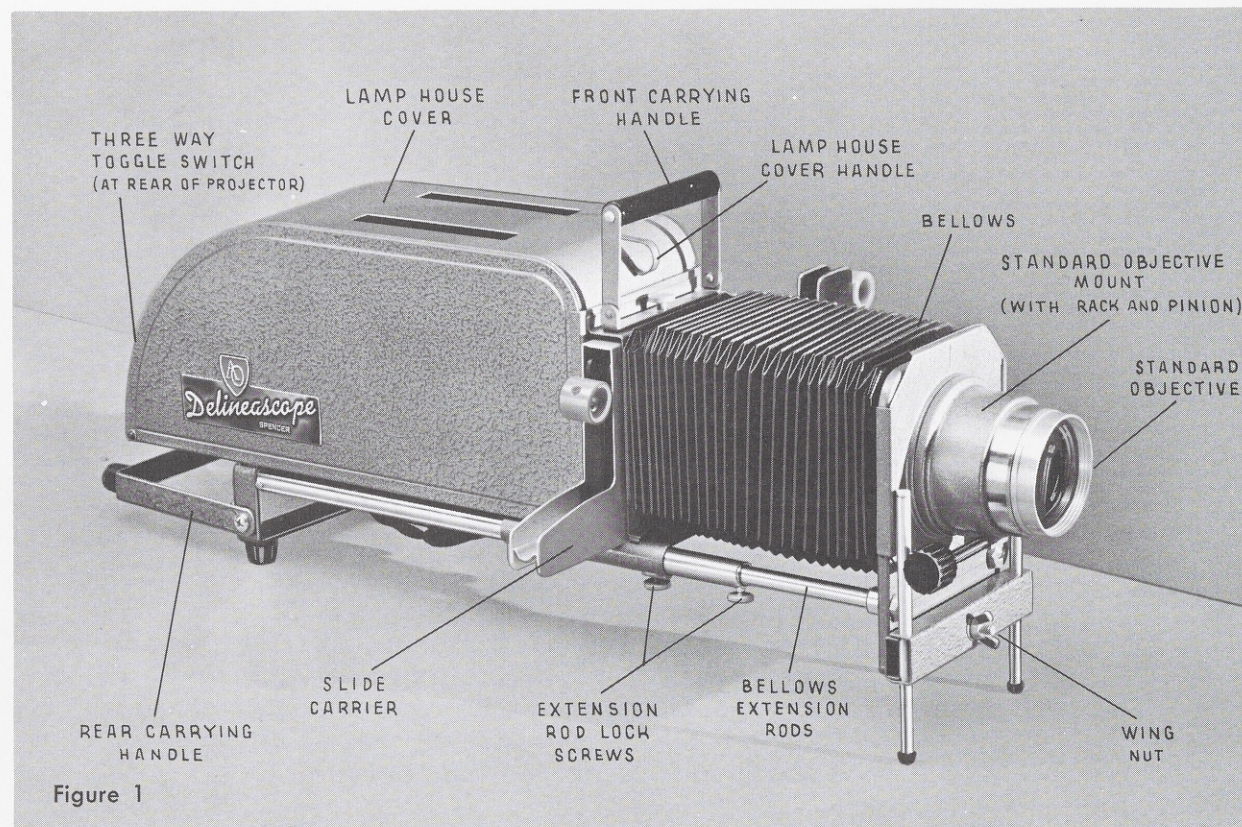
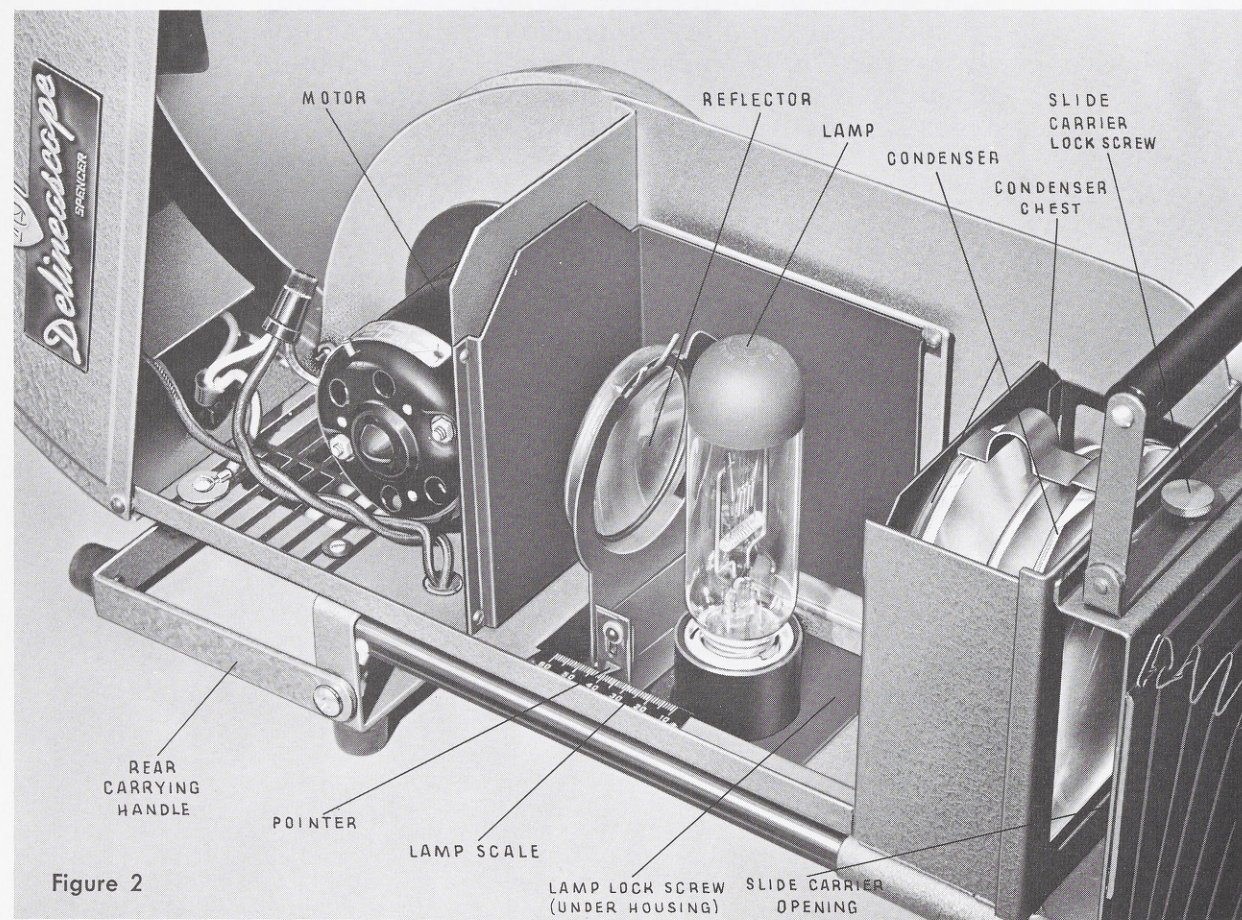
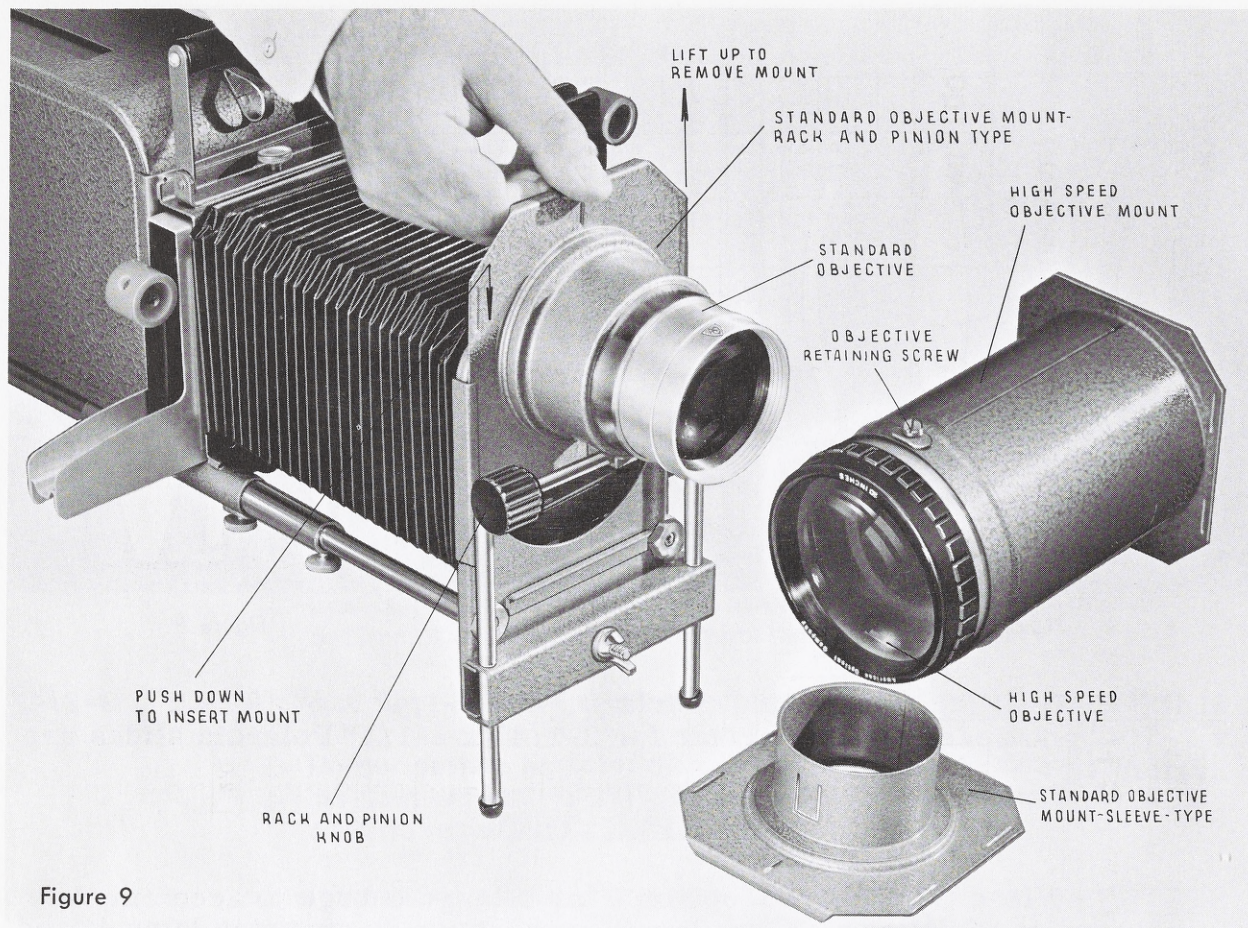

Figure 1
Figure 2
Figure 9
three mounts have flanges that fit into dove tail slideway on projector for convenient interchange (Fig. 9).
- A. **SET-UP:** Place GK Delineascope on a table large enough to accommodate full extension of bellows. Open lamp-house cover by grasping lamp-house cover handle (Fig. 1) and pulling up and back. Remove any packing papers inside of projector. See Projection Chart for correct lamp scale setting for the combination of slide, objective, and condenser to be used. Loosen the lamp lock screw (located under the projector, as indicated in Fig. 2), slide lamp and reflector assembly so pointer is opposite the proper number on the lamp scale (Fig. 2) as determined from Projection Chart. Lamp setting is most important, since the lamp must be in the proper position to insure full illumination and definition. If the lamp is set too close to the condenser, the screen image will develop a bluish tinge at the corners. If it is set too far from the condenser, a brownish tinge will appear at the corners. (When a change is made in the size of the slides being projected (or, in some cases, in the focal length of the objective being used) lamp must be reset in accordance with Projection Chart.
Insert empty objective mount on projector (Fig. 9), push mount all the way down. Place objective in mount, with numerals indicating the focal length to the front of the projector. Loosen the slide carrier lock screw (Fig. 2), and insert slide carrier in opening (Fig. 2), with Lucite strip on the carrier facing the rear of the projector. Center the carrier and tighten the screw. (In a dark room with the projector turned on, the Lucite will transmit sufficient light to read notes and identify slides.) Plug cord into outlet . . . place slide in carrier, and turn on projector.
- B. **FOCUS:** Loosen lock screws on bellows extension rods (Fig. 1). Extend bellows until image is clearly visible on screen . . . tighten lock screws. Focus with objective until image is sharp. It may be necessary to re-adjust bellows before image can be sharply focused with objective.
- C. **CENTER IMAGE:** Center image on the screen horizontally by moving the front of the projector left or right as needed. To center image vertically, loosen wing nut on the front (Fig. 1) and raise projector to proper height. Tighten wing nut to maintain this position. The rear handle (Fig. 1) can be used as an elevating device to raise the rear of the projector. The accessory iris diaphragm (see section III, D) is attached by slipping over front of the objective. Jarring the projector during or immediately after use should be avoided as this may cause lamp filaments to break. Projector should not be exposed to cold air immediately after use to avoid possibility of cracking condenser.
- C. CHANGING OBJECTIVE MOUNTS: Objective mounts are attached to projector with flange and dovetail arrangement. (Fig. 9) To remove, lift mount up and out. To replace, insert flange into dovetail on projector face and seat mount firmly all the way down. Note: Objectives should be removed from mounts before attempting to lift out or replace mount.